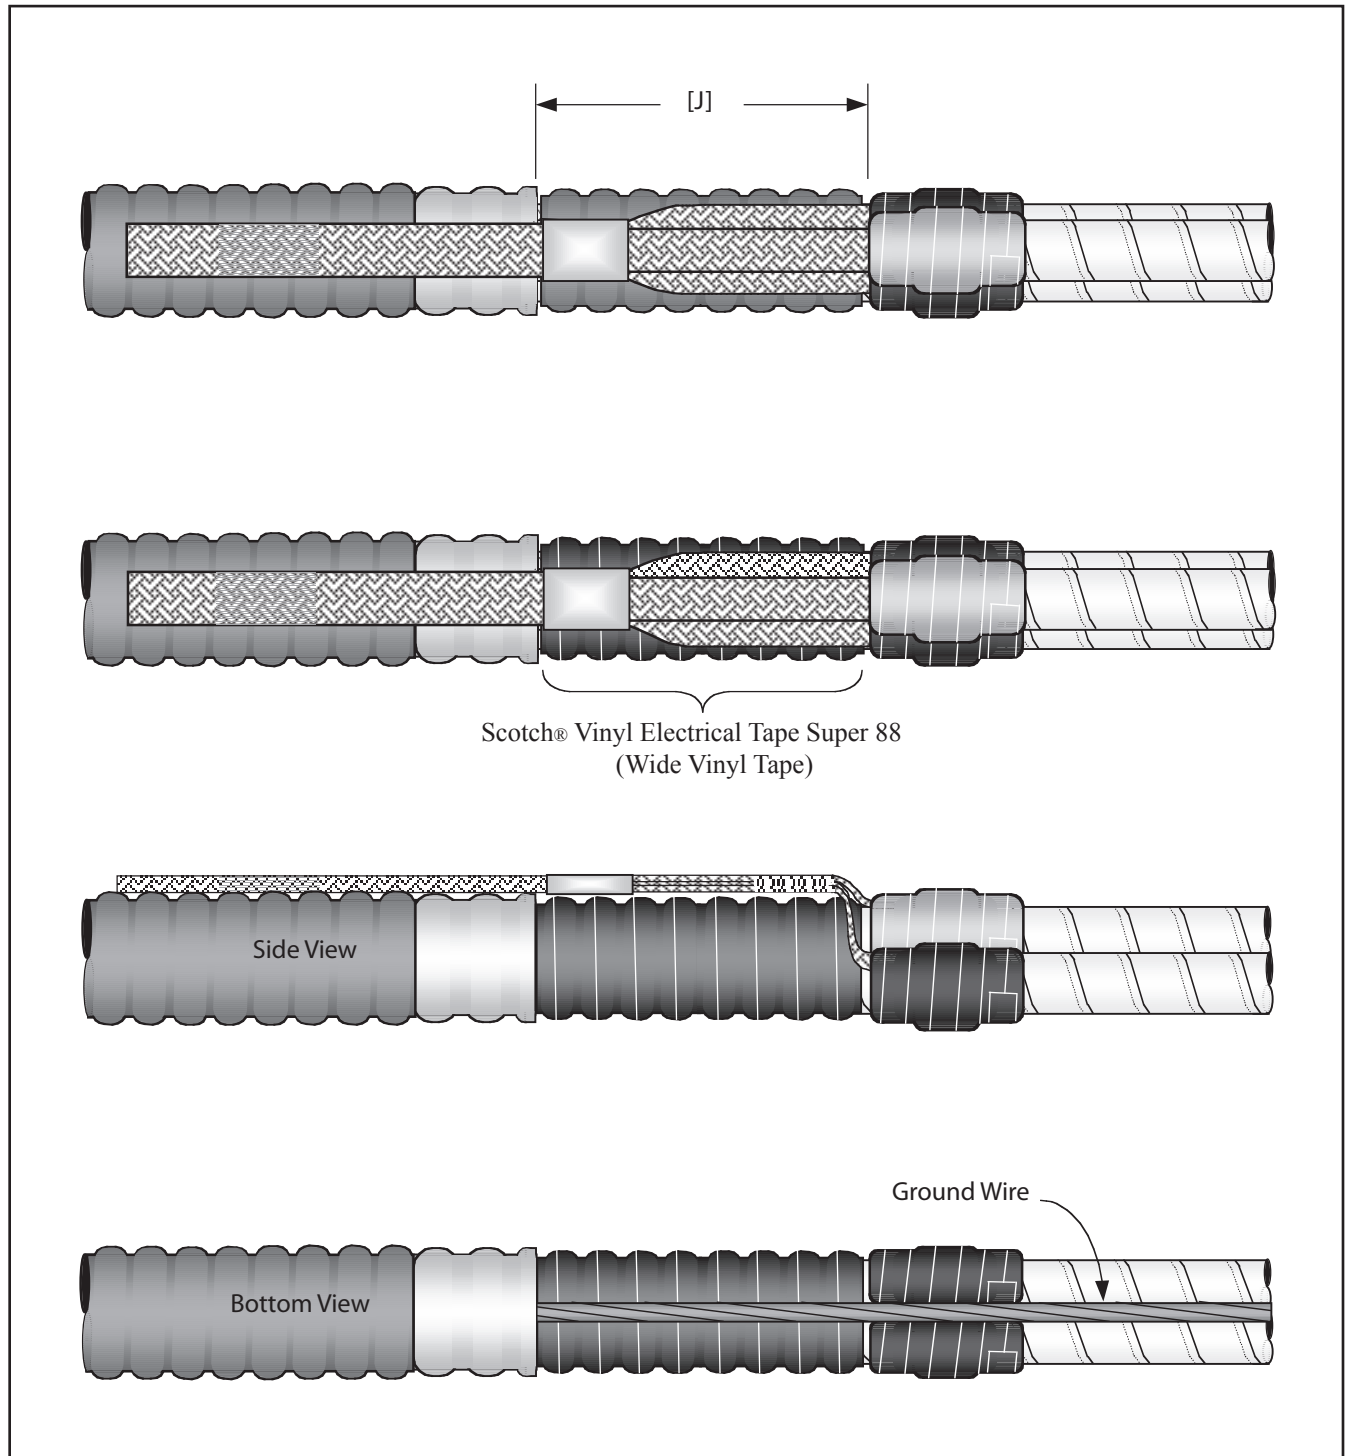

Figure 3
- 2.4 Measure distance [J] (Figure 3). Retrieve previously removed cable jacket material. Cut a straight piece to dimension [J] and wrap it around cable phases beneath ground strap assembly and cable ground wire. Secure jacket section in place using Scotch® Vinyl Electrical Tape Super 88 (wide vinyl tape) (Figure 3).